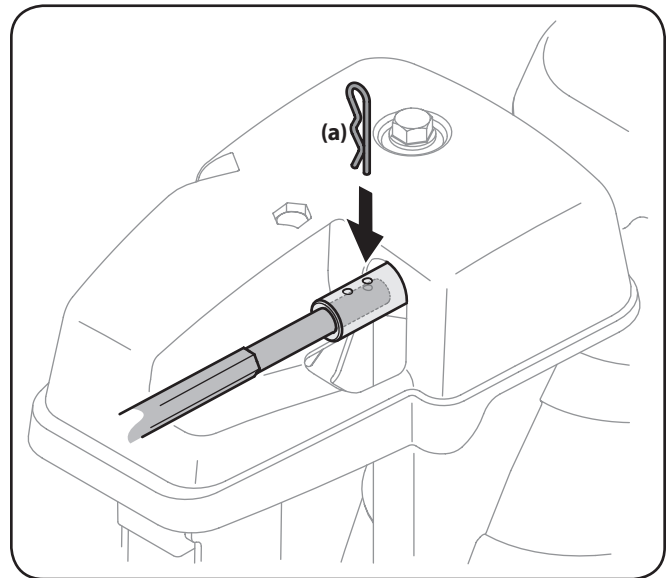

Figure 3-9
7. Push the chute control rod toward the control panel until the hole in the rod lines up with the hole in the chute control input closest to the chute control head and insert the cotter pin (a) removed in Step 1. See Figure 3-9.